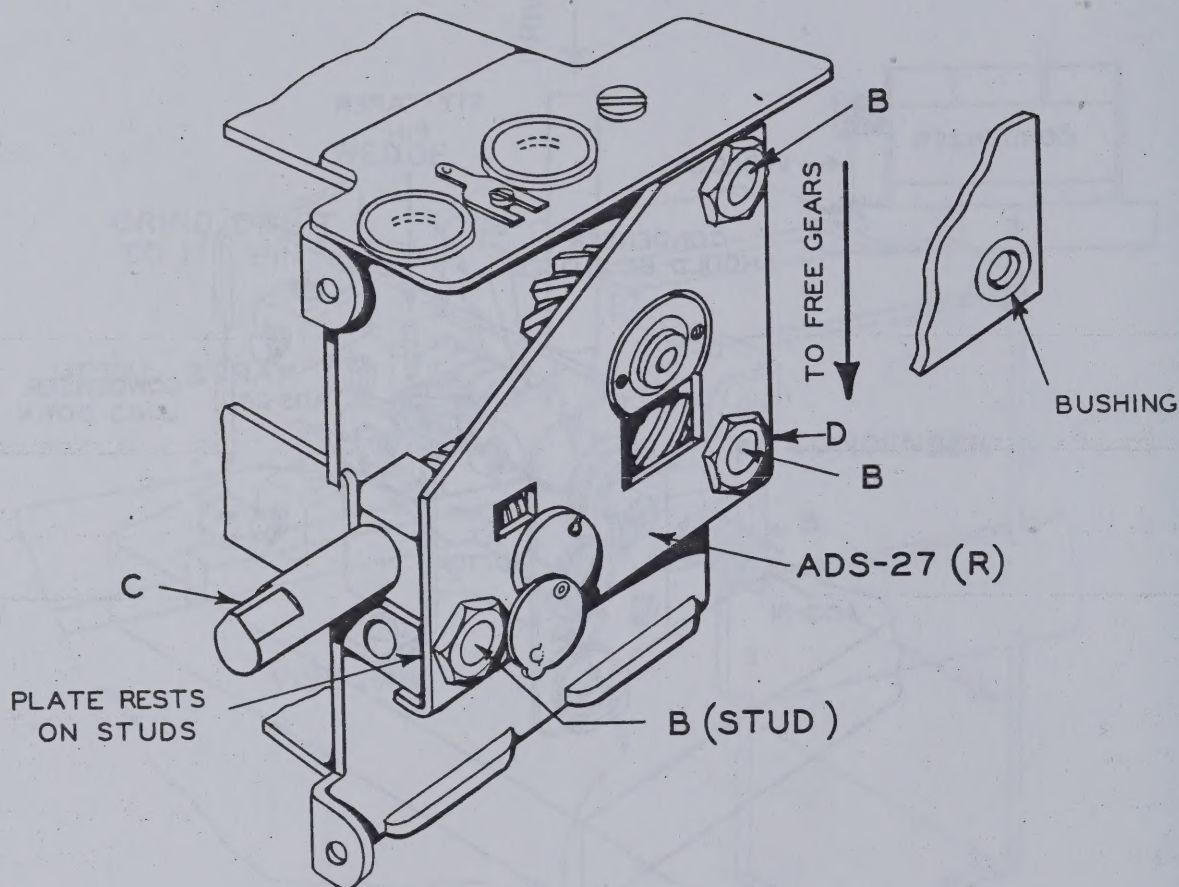

Figure 15 — Condenser — Mounting of Adapter Plate Assembly
12. (FIG. 15) Install adapter plate Assembly ADS-27 (A) on the three studs (B).